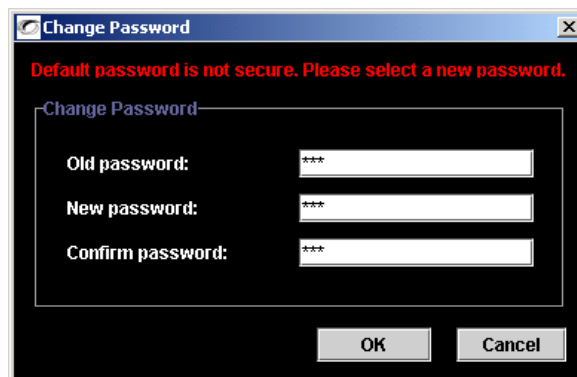

Figure 5-8 Change Password Window
15. If you logged on using the default password, the AIM will prompt for a more secure password as shown in *Figure 5-8*.